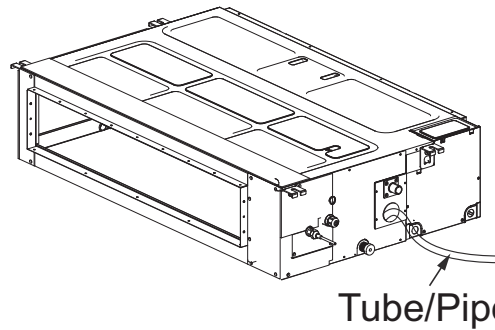

Fig. 34 — Tube/Pipe Insert
2. Use a piece of tubing or pipe to fill the drain pump reservoir with 70 oz. of water. See Fig. 34 below.